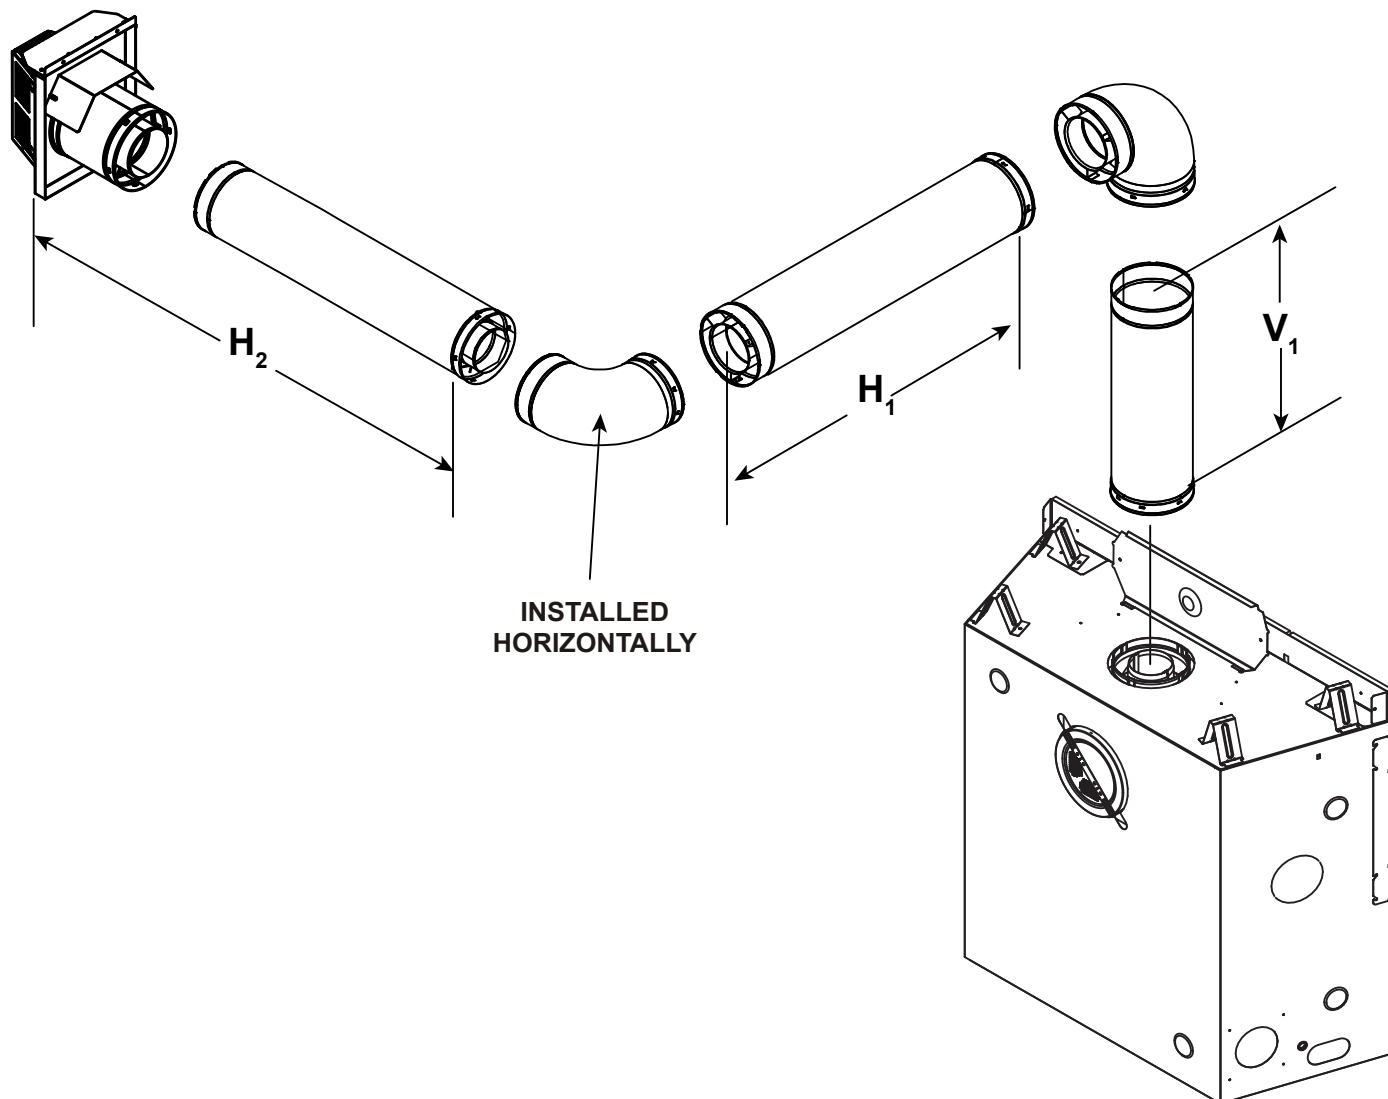

Figure 4.13
- **Top Vented:** A maximum of four 90° elbows (or eight 45° elbows) may be used in any vent configuration. Some elbows may be installed horizontally. See Figure 4.13.